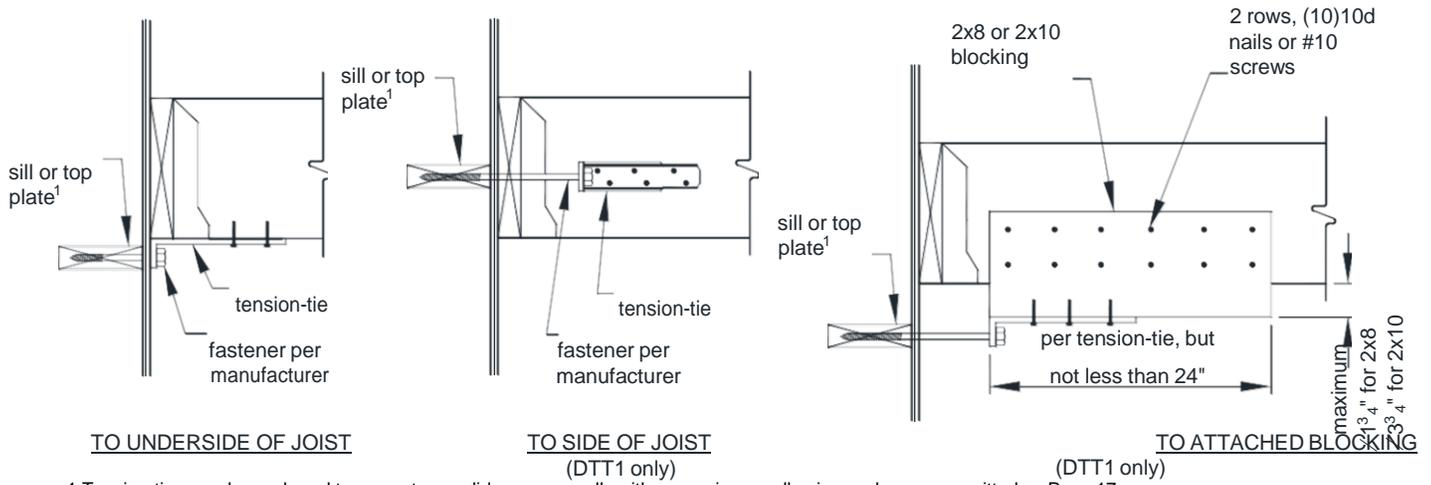

FIGURE 28: METHOD 1 - TENSION-TIE CONNECTION
- Tension-ties shall be attached to the joists and exterior wall per the manufacturer's instructions with specified fasteners as shown in FIGURE 28. Fasteners shall penetrate a minimum of 3 inches into the sill plate or top plate of a wood framed wall.